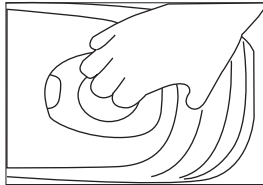

Fig 16
- Open the front cover by touching front cover button. (Fig 16)